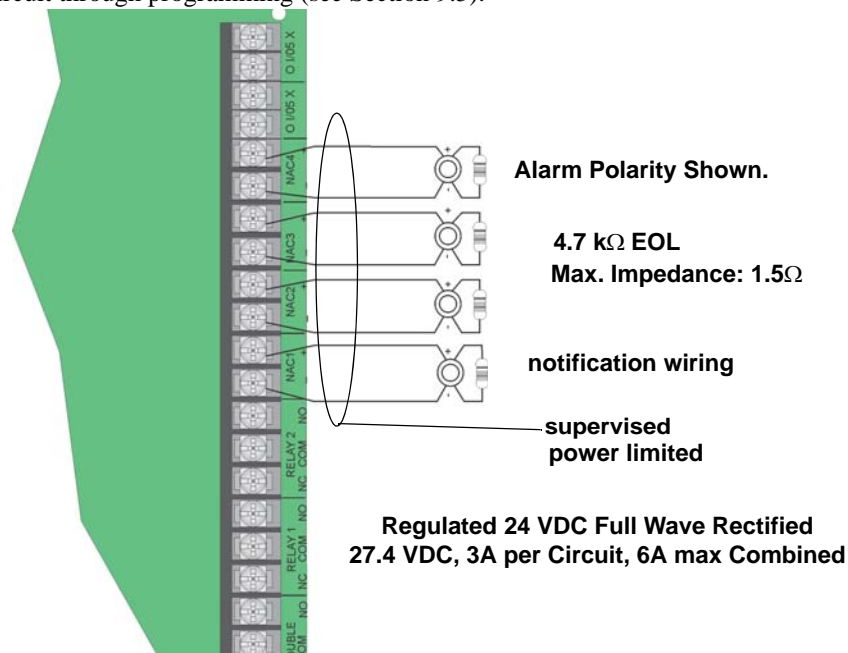

Figure 4-51 Class B Notification Appliance Circuit Wiring
1. Wire Class B Notification appliances as shown in Figure 4-51.